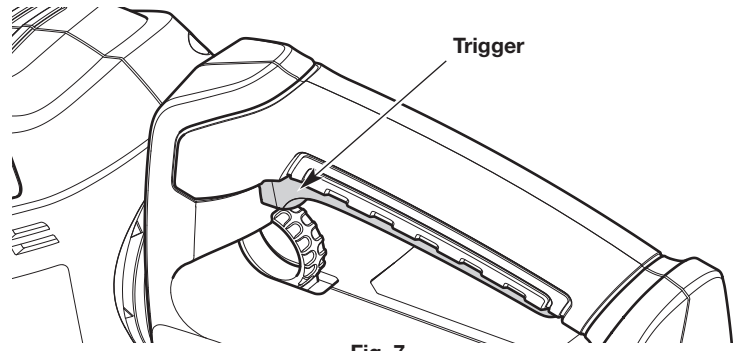

Fig. 7
3. Continue to hold the trigger lockout. Squeeze and hold the trigger to start the unit (Fig. 7).